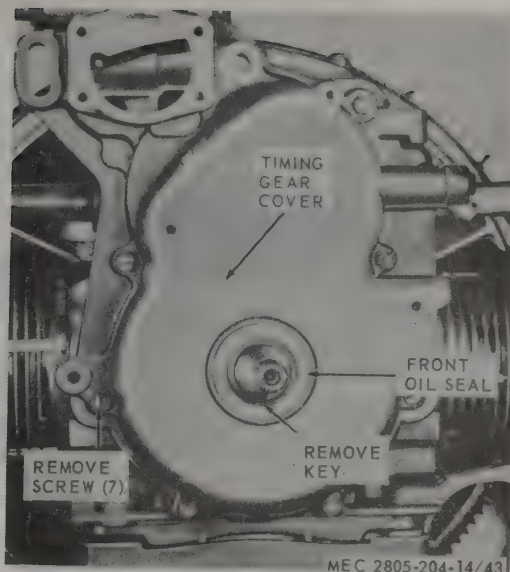

Figure 4-2. Timing gear cover and front oil seal, removal and installation.
- (1) Remove alternator (para 3-34).
- (2) Remove governor (para 3-29).
- (3) Remove oil filter and bracket (para 3-39).
- (4) Remove throttle control rod bracket (para 3-29).
- (5) Remove oil filler tube bracket (para 3-38).
- (6) Refer to figure 4-2 and remove timing gear cover and front oil seal.
- (1) Refer to figure 4-2 and install front oil seal and timing gear cover.
- (2) Install oil filler tube bracket (para 3-38).